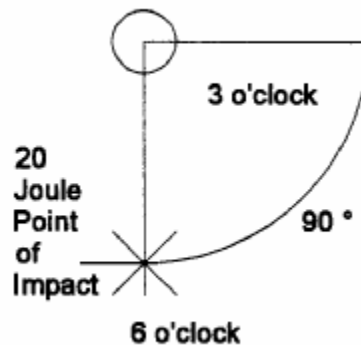

Figure 1: Pendulum Method
- 5.3.1. Pendulum Method: The pendulum impact test apparatus is a test fixture capable of allowing the test mass to swing through a 90° arc (pendulum arm is a steel rod having a 0.375 inch diameter and 37 inches length) from the 3 o'clock position to the 6 o'clock position and apply an impact energy of 20 joules to the object under test (ref. Figure 1).